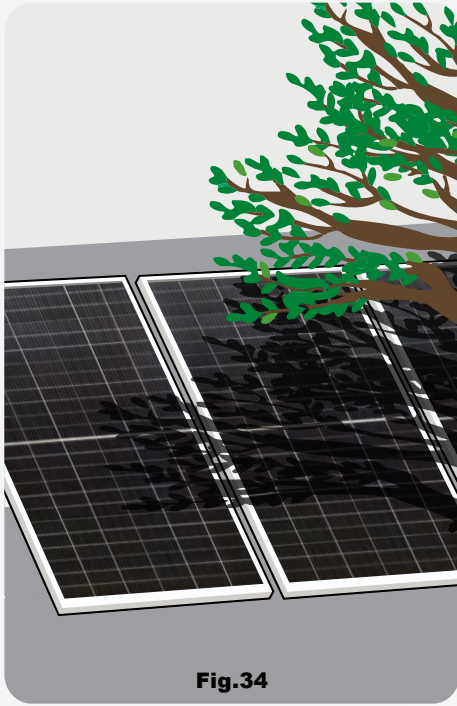

Fig.34
**(Fig.34)** When choosing the installation site, it is important to avoid any objects that may cast potential shadows on the PV modules, such as trees, buildings, or other obstructions. This is especially relevant during winter when the sun's path is lowest over the horizon. Module shading causes losses in power output, even though the module's bypass diodes minimize such losses. Constant shading conditions can also affect module lifetime, due to accelerated aging of the encapsulation material and thermal stress on the bypass diodes.